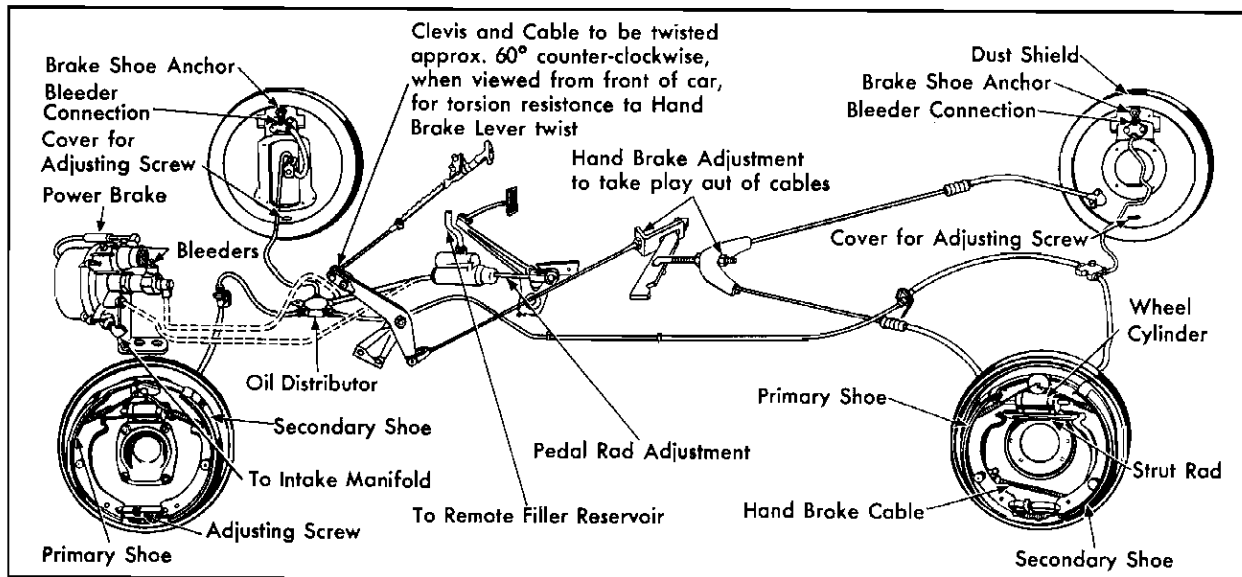

Fig. 9-6 Brake Adjustment References
1. Lubricate complete hand brake linkage and check for free movement of cables in conduit and in equalizer, Fig. 9-6.